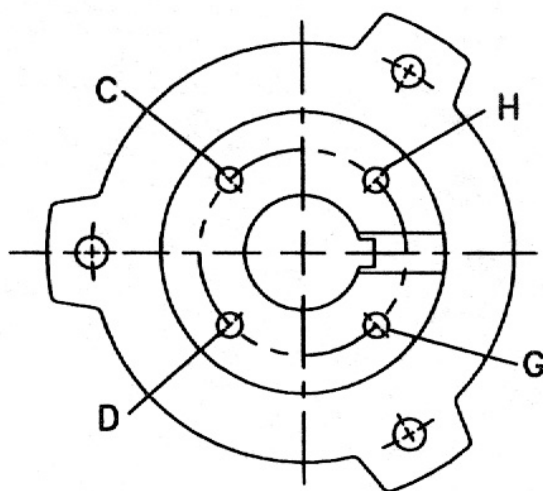

Fig. 22
NOTE: Shaft adjustment up or down is accomplished by turning the adjusting nut (604) Fig. 22.
1. With shafting all the way down and the impellers resting on their seats, turn the adjusting nut (604) in a counter-clockwise direction, thus lifting the shaft until the impellers just clear their seats and the shaft turns freely by hand. This removes all deflection from the shaft.
2. Align hole "A" in the adjusting nut (604) and hole "C" in the motor coupling (See Fig. 22) or whatever similar holes are in like position. If care is exercised this will give an initial impeller clearance of from 0.001" to 0.003" (0.02mm to 0.07mm) depending on shaft size and thread data shown in *Table 3*.